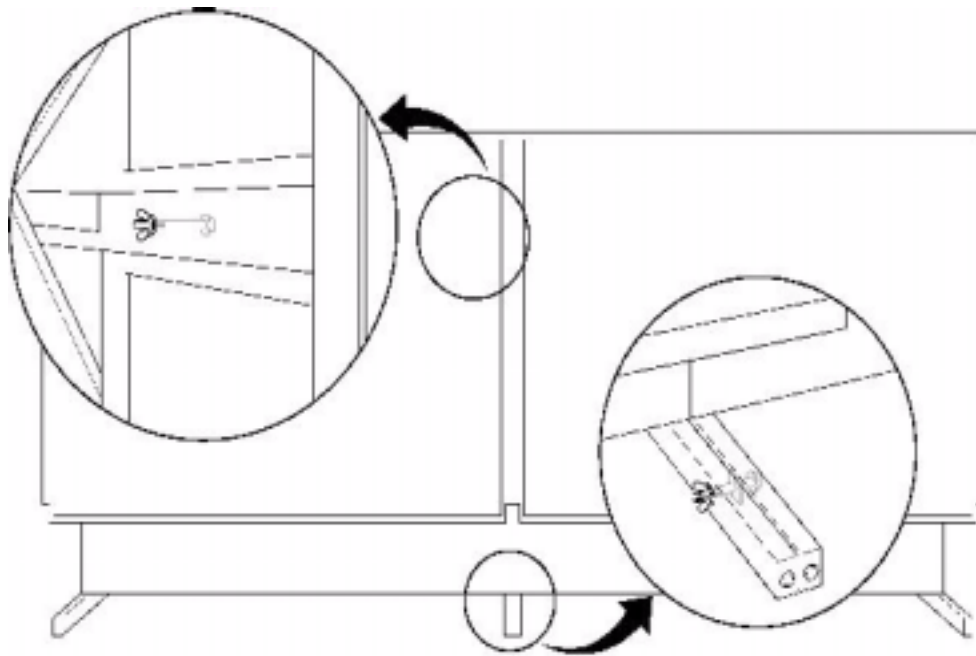

Figure 1
3. Assemble the lower row first.	Line up the legs as straight as possible. Insert a 1/4" X 2 1/2" bolt through the holes as shown in Figure 1 . Tighten a nut securely on this bolt. Secure the legs to the floor using the tapped 5/16-18 holes in the front and rear of the legs when stacking more than two units high or use the optional BAS-520 base to secure the WN-5220-V.
fastener.	into each leg of the unit above. Tighten a nut on this bolt to lock the units together. See Figure 1 above .